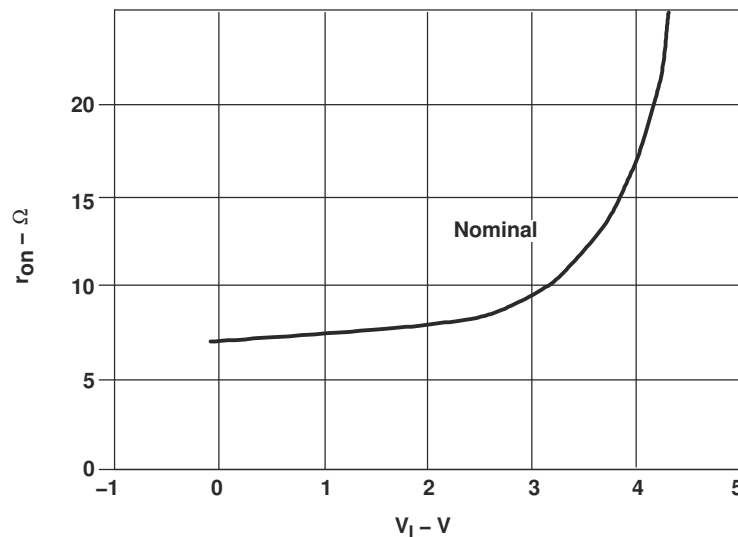

Figure 2-2. On-State Resistance vs Lowest I/O Voltage for an N-channel FET Switch With $V_{CC} = 5\text{ V}$
For an N-channel FET to operate properly, the gate should be biased more positive than the magnitude of the signals to be passed. This is because the on-state resistance, R_{ON} (or $R_{DS(ON)}$ as it also is called), increases as the gate, minus source voltage, V_{GS} , decreases. If the lowest $V_{I/O}$ signal approaches the magnitude of V_{CC} , V_{GS} decreases and R_{ON} increases (see Figure 2-2). The ability to maintain a low R_{ON} in a FET switch depends on maintaining V_{GS} as large as possible. In many applications, this characteristic is not a problem, but the designer should be aware of the nonlinearity of this type of device.
- Sine-Wave Distortion or Total Harmonic Distortion:** These are measurements of the linearity of the device. Nonlinearity can be introduced a number of ways (design, device physics, and so forth) but, typically, the largest contributor is R_{ON} . As shown in Figure 2-2 and Figure 2-4, R_{ON} varies with $V_{I/O}$ for all types of CMOS switches. Having a low R_{ON} is important, but a flat R_{ON} over the signal range is almost equally important.